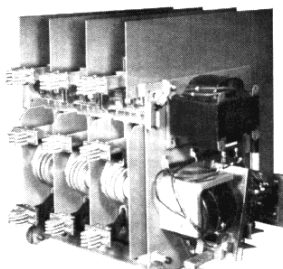

Figure 2B
- Standard contactor assembly as described with additional third stab assembly. See Figs. 2B & 2C